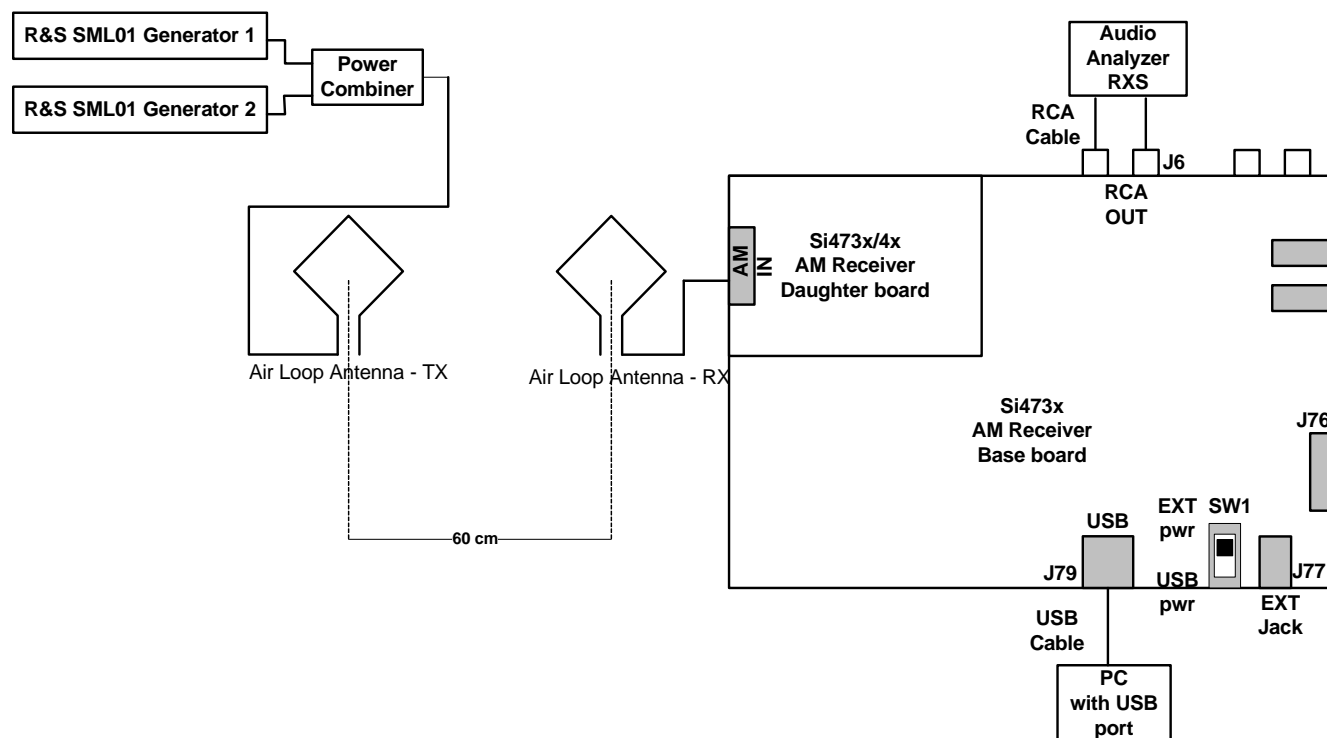

Figure 8. Test Setup for AM Radiated Sensitivity
1. Connect test equipment as shown in Figure 8.